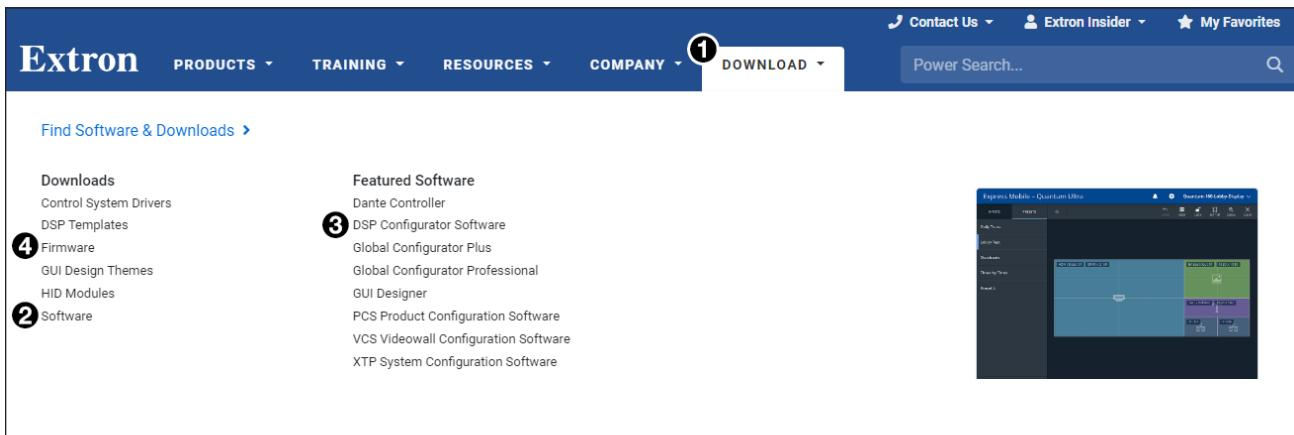

Figure 11. Software Links on Download Screen
2. Mouse over the Download tab (see figure 11, ①) at the top of the page.
NOTE: If the software is listed, click that link (see the **DSP Configurator Software** link in figure 11, ③). The software product page opens. Skip to step 5 on page 15.